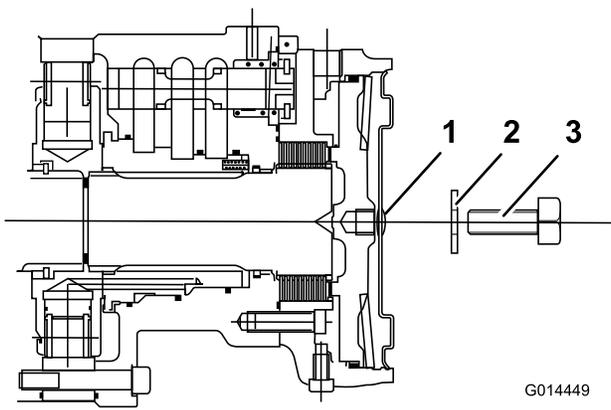

Figure 63
4. Install a M12 x 40 mm long setscrew with washer into the hole in the centre of the motor end plate (Figure 63).
5. Tighten the setscrew into the threaded hole in the brake piston until the brake is released (Figure 63).
6. Identify the left hand front wheel motor disc brake assembly and repeat the previous procedure (Figure 63).